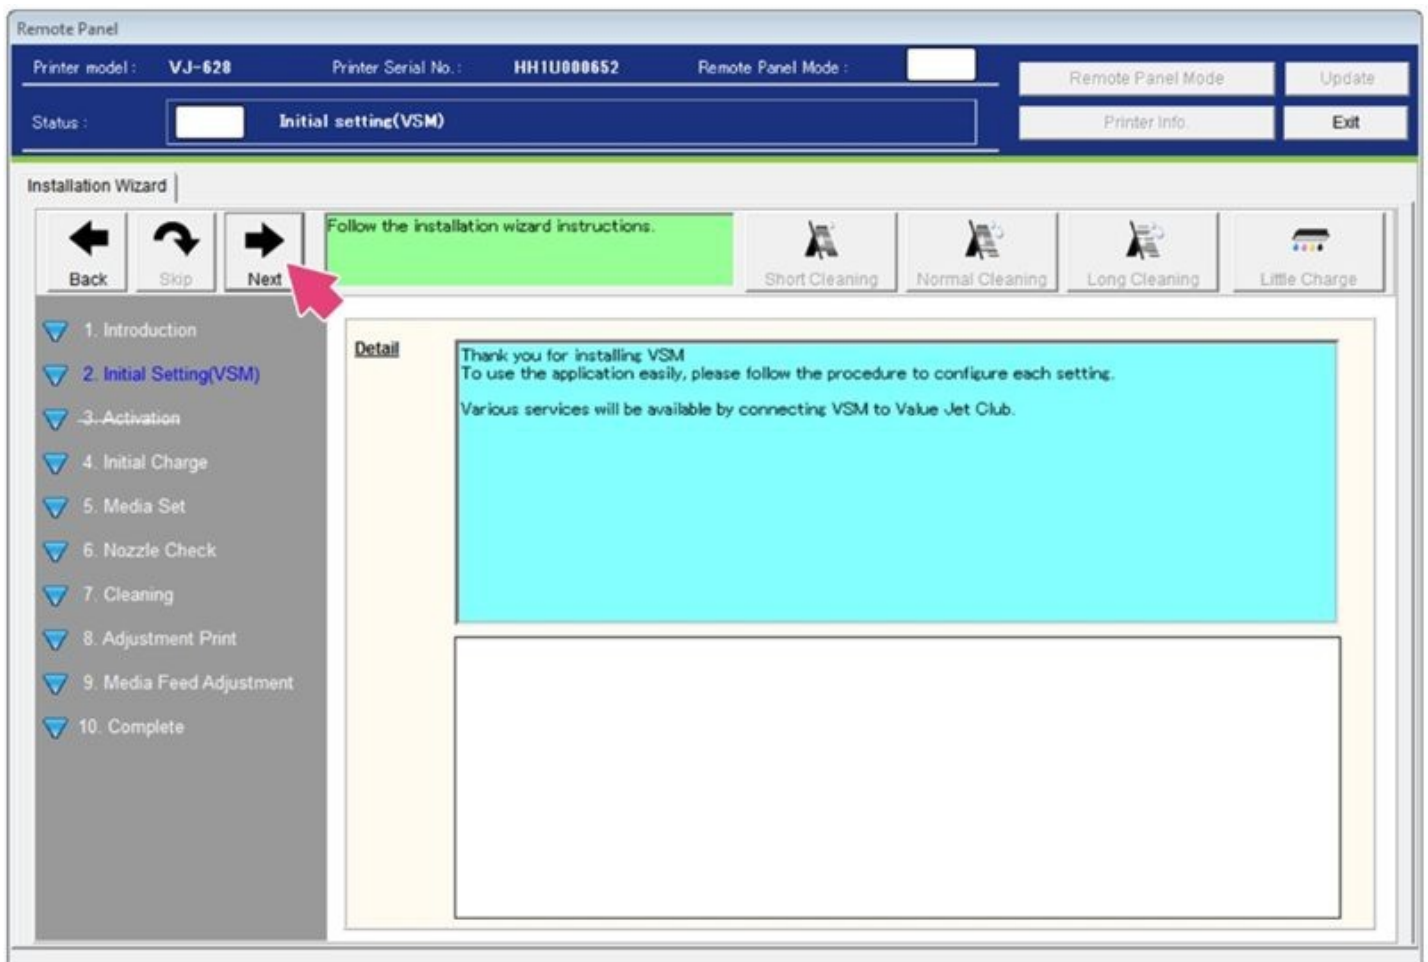

Figure 46
33. Initial Settings (VSM) setup will begin. Select **Next**. See Figure 46.